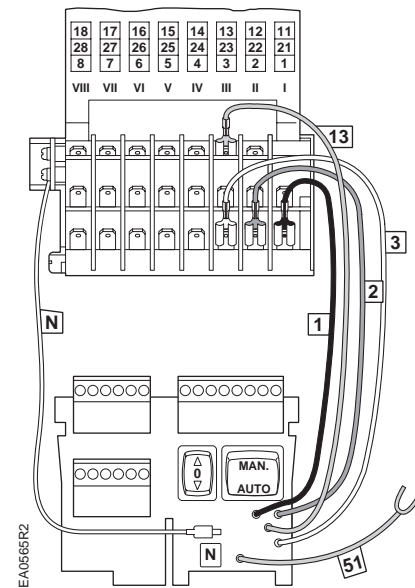

Figure 26.
7. See Figure 26 and make the following connections to the actuator: